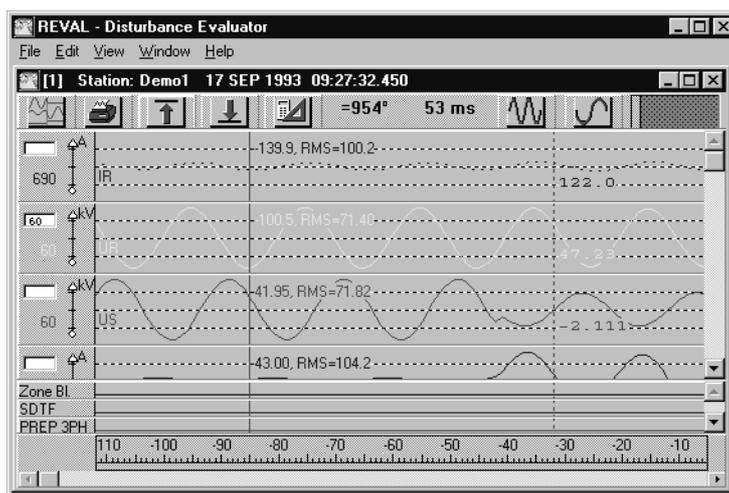

Fig. 7 The measuring function.
- 1 Click once on Measure to make the window look like in Fig. 7.